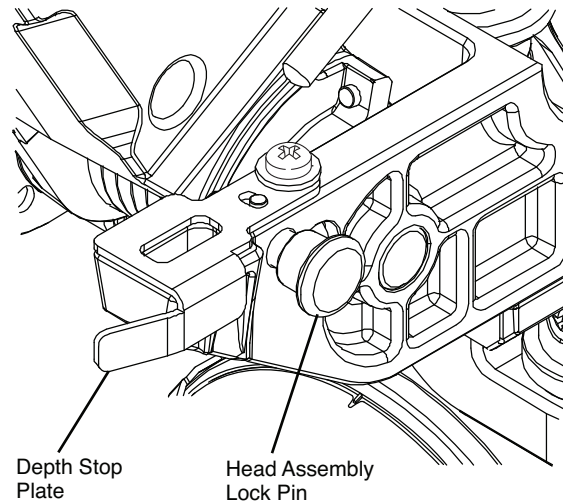

Figure 11
1. Check that the depth stop plate (item 33 - page 12) is disengaged, or pressed in to the left position.
2. Grasp the saw's main handle (item 3 - page 11) and press down on the head assembly.
3. While pressing the saw head down, push in on the head assembly lock pin. Release the head assembly. The head will be locked in the DOWN position (see Figure 11).